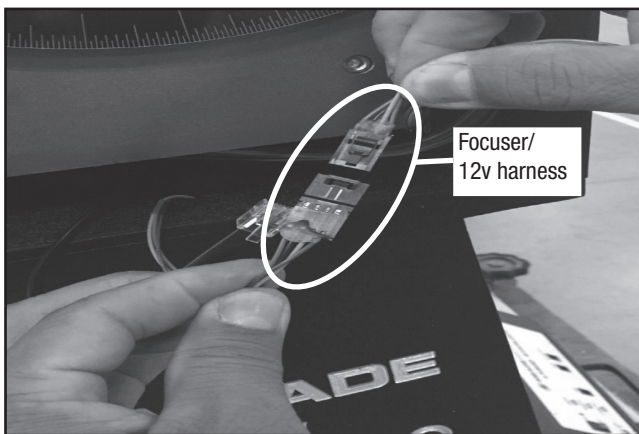
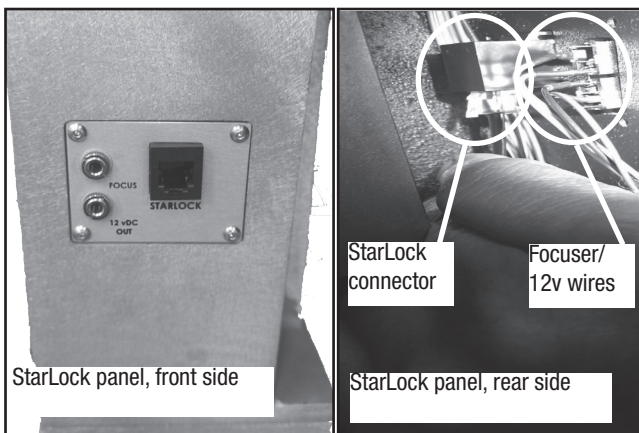

Fig. 42: Pull the StarLock harness out the top of the circular hole and connect to rear of StarLock control panel on Dec housing .
Fig. 43: StarLock control panel on left Dec housing.
7. Route the harness internally up through the vertical part of the fork arm and out the circular hole at the top. Carefully pull the excess cable out of this hole so you have enough to connect to the back of the StarLock cover plate located on the Dec housing. See Fig. 43.
8. Connect the focuser/12v harness to the rear of the StarLock control panel shown in Figure 43. There will be a short harness directly attached to the panel as shown in Figure 42.
9. Connect the StarLock harness to the connector on the rear side of the StarLock control panel as shown in Fig 43.